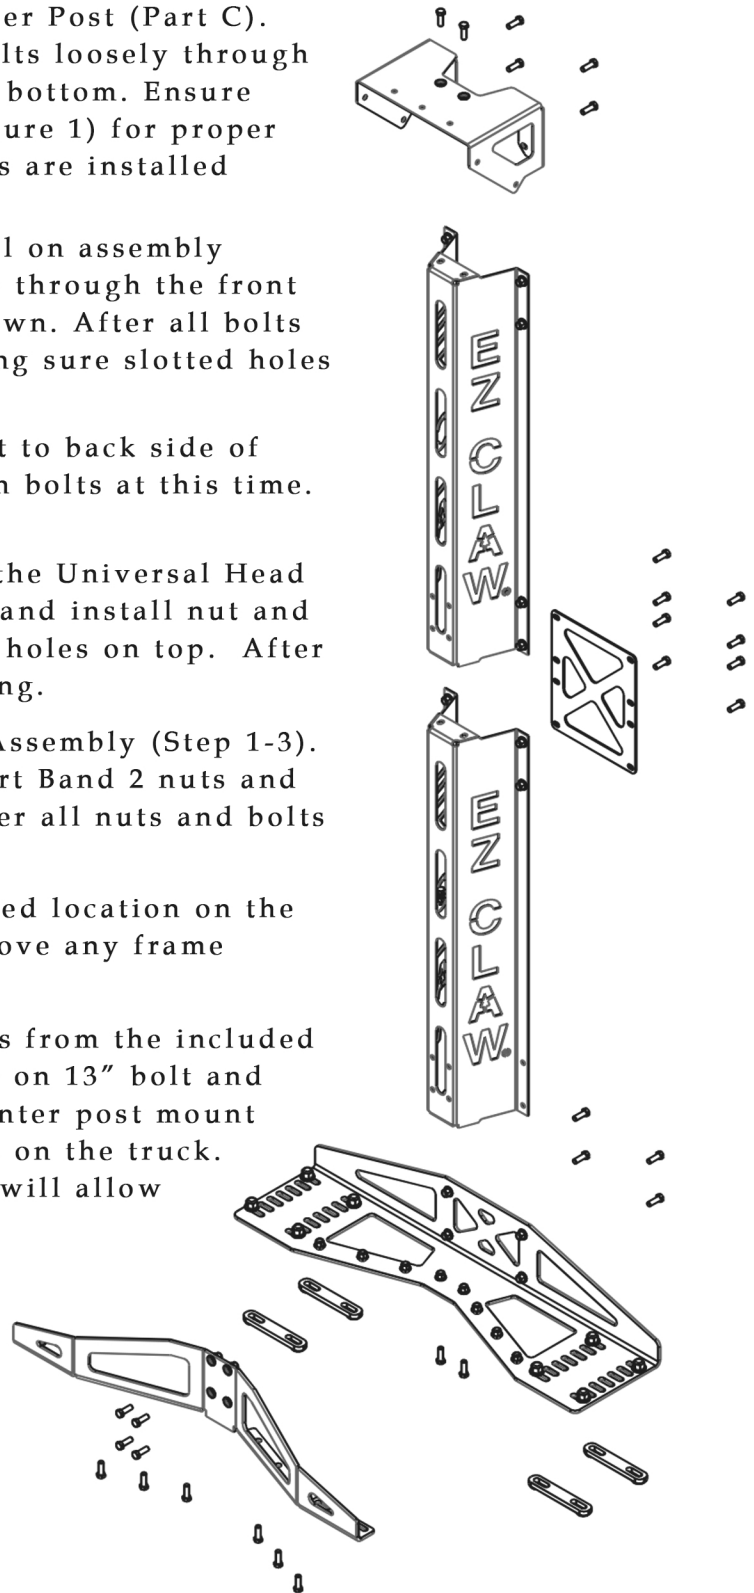

Figure 1
- 1) Locate Base Plate Member (Part A) and Center Post (Part C). Set Part C on Part A and install nuts and bolts loosely through the 4 holes in the back and two holes in the bottom. Ensure head of the bolts are oriented as shown (Figure 1) for proper frame rail clearance. After all nuts and bolts are installed tighten all bolts.